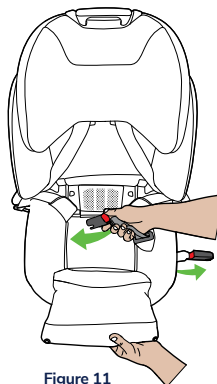

Figure 11
Step 1. Thread the ISOGO connectors through each belt path opening so the belt sits in the installation path (Figure 11 & 12).